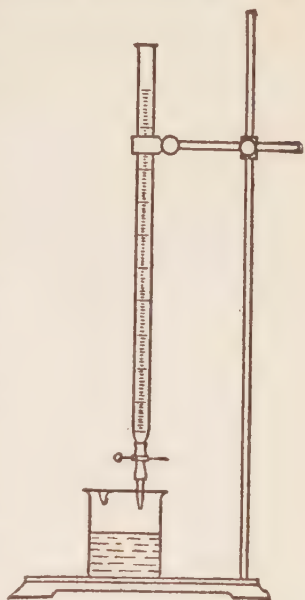

Fig. 5.
a. Fit a burette (Fig. 5) with a short piece of rubber tubing and glass nozzle (see Exercise 4 b). The withdrawal of liquid from the